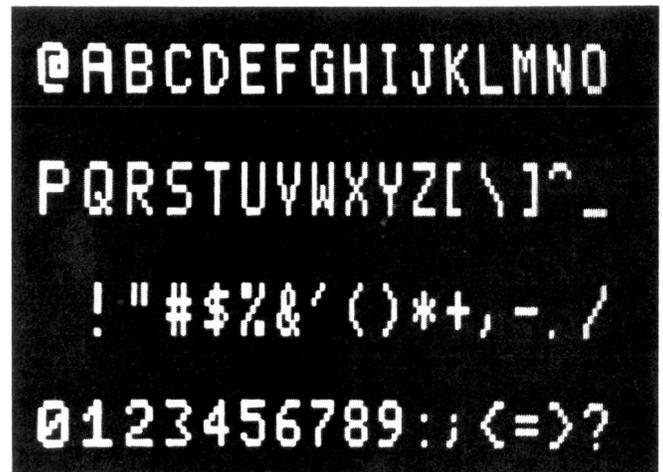

Figure 3, Terminal Display Repertoire
1.17 Figure 3 shows the complete repertoire of ASCII print characters which can be displayed.